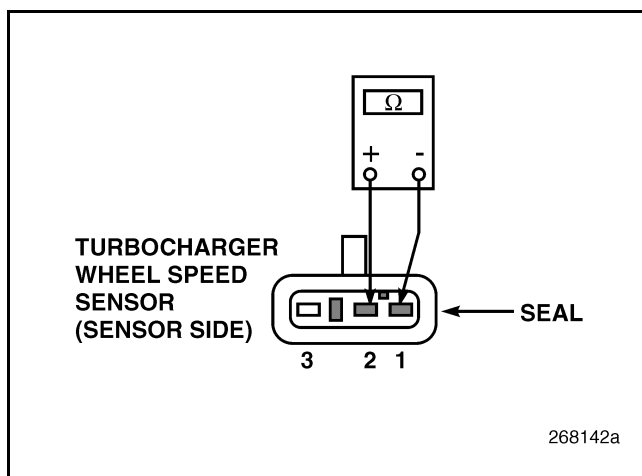

Figure 615
3. Measure the resistance across the terminals on the sensor side of the connector (see Figure 615).